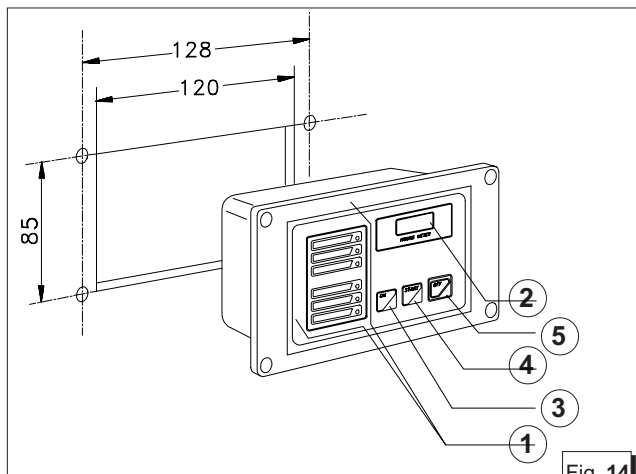

Fig. 14
The control panel contains 5 LEDs for operation and alarm (fig. 14, ref. 1), an hour counter (fig. 14, ref. 2) and the start and stop buttons (fig. 14, ref. 3/4/5).
For fixing the control panel is necessary to perforate as shown in fig.14.